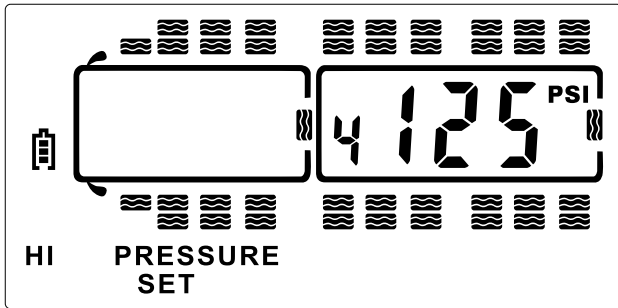

Figure 18: High Pressure Set Screen
4. Press the **+** button or the **-** button to adjust the high pressure alert to 20-25% over the normal tire pressure for that axle. See *Figure 18*.